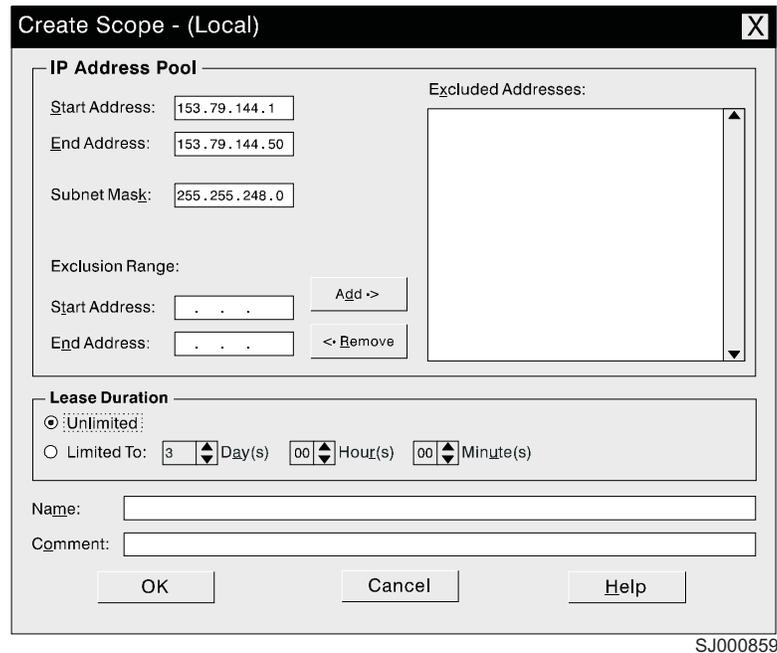

Figure 11. Create Scope - (Local) window
- b. Click **Scope** —> **Create**. The Create Scope - (Local) window opens as shown in Figure 11.